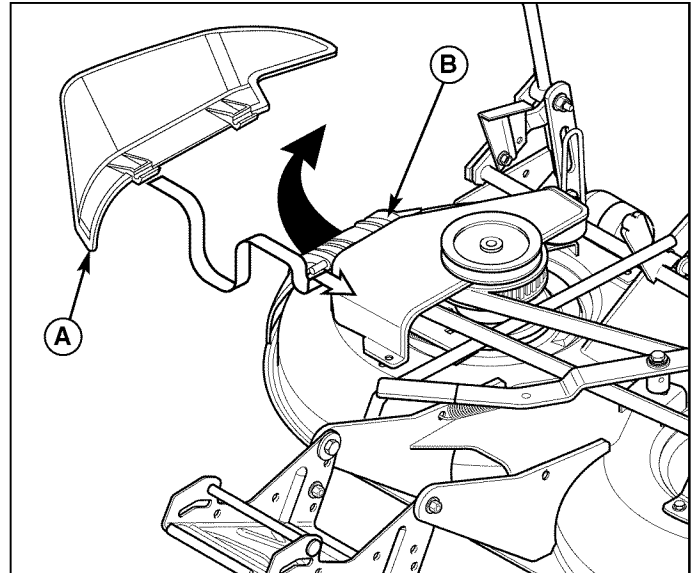

Figure 5. Installing the Side Discharge Deflector
1. Lift up the mulching cover (B, Figure 5).
2. Install the side discharge deflector (A) under the mulching cover. The side discharge deflector hooks onto the mulching cover hinge rod, and is held in place by the mulching cover.